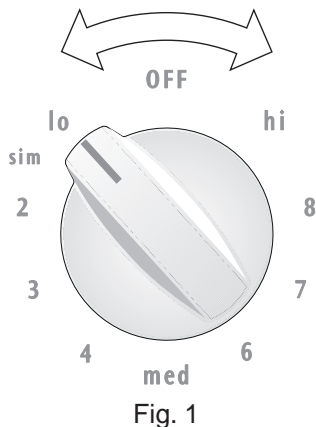

Fig. 1
2. Push in & turn the surface control knob in either direction to the desired setting (See Fig.1). Start most cooking operations on a higher setting & then turn to a lower setting to finish cooking. The surface control knobs do not have to be set exactly on a particular mark. Use the marks as a guide & adjust the control knob as needed. Each surface element provides a constant amount of heat at each setting. A glowing red surface heating area extending beyond the bottom edge of the cookware indicates the cookware is **too small** for the surface heating area.